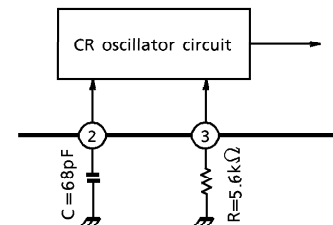

Figure 1 CR Oscillator Circuit
The TC9455F/N and TC9488F/N generate an internal system clock using the CR oscillator circuit. Connecting a capacitance (C) of 68 pF and a resistance (R) of 5.6 kΩ sets the oscillator frequency to approx. 4 MHz and the sampling frequency to 32 kHz. Varying the external capacitance enables the oscillator frequency and sampling frequency for the system clock to be adjusted. Varying the system clock enables the delay time to be adjusted. Figure 1 shows the CR oscillator circuit.